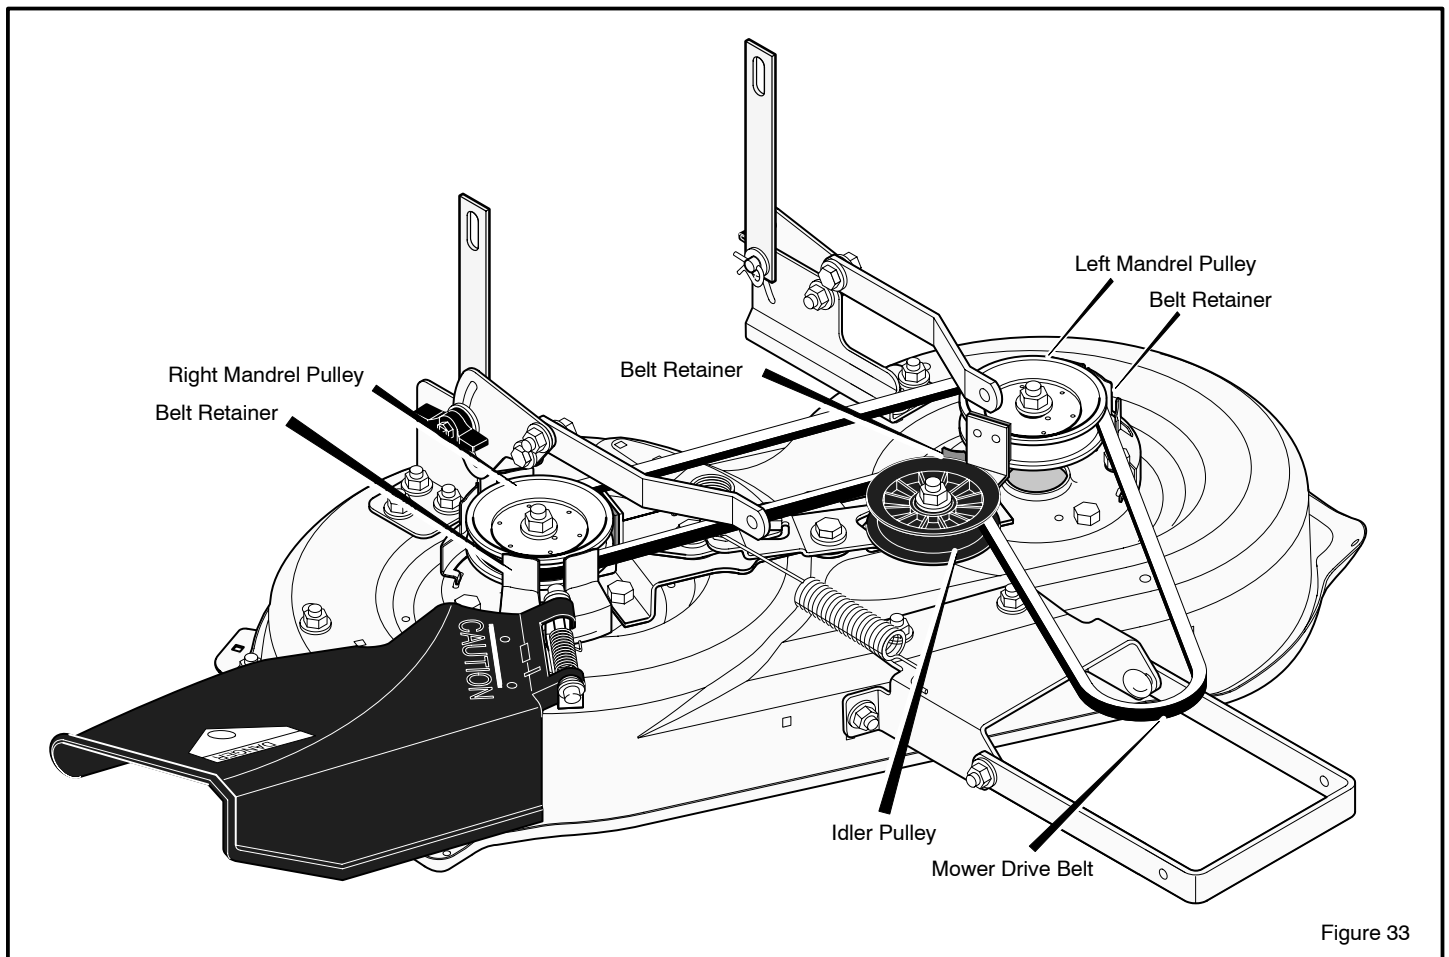

Figure 33
2. Pull the **belt retainer** away from the **idler pulley** and remove the **mower drive belt** (Figure 33).